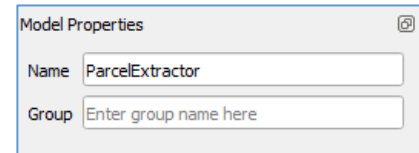

Fig. 4. Model name needs to be provided in order to save it.
- B. A **Model Designer** window will open. First, in the **Model Properties**, choose the name of the model (Fig. 4). Only after providing the name of the model here will you be able to save the model.